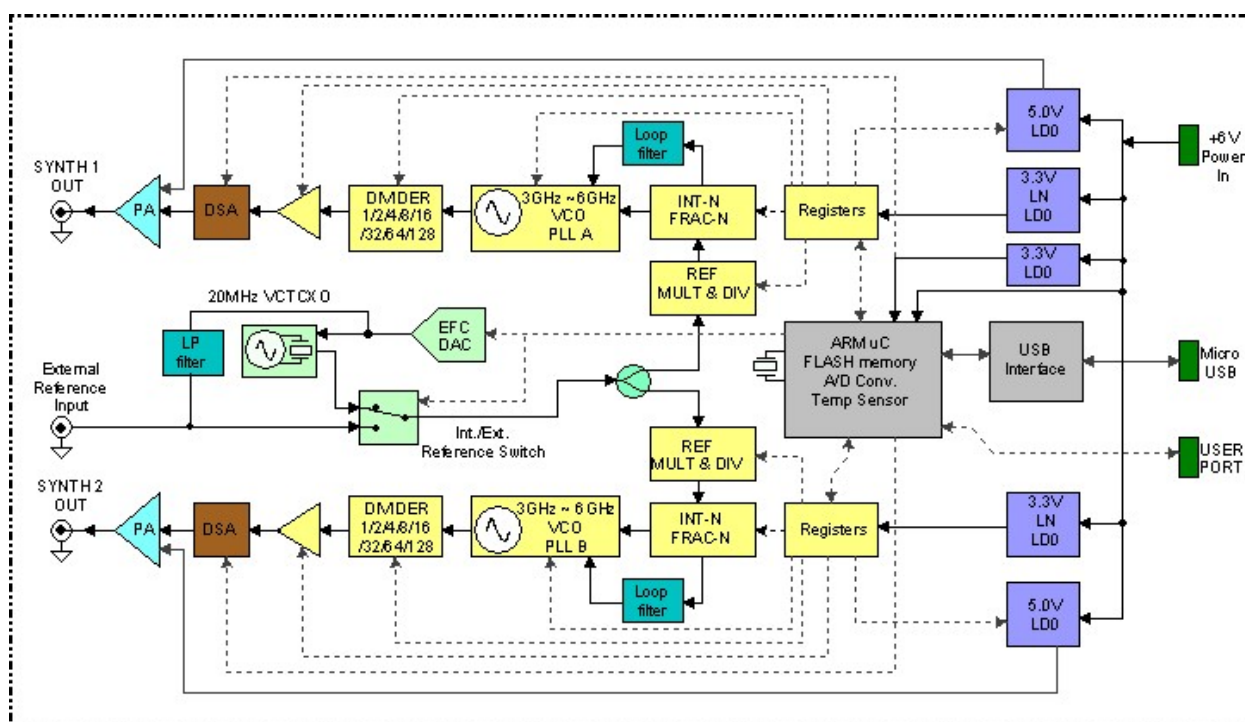

Figure 1 Block Diagram
**Figure 1** shows a block diagram of the 5009 system topology. The 32-bit ARM processor controls the operation of the synthesizer as well as storing user settings in non-volatile flash memory. Simple, human readable, commands can be sent through either the micro-USB serial port or to the 3.3V TTL USER port to control the operation of the 5009 synthesizers.